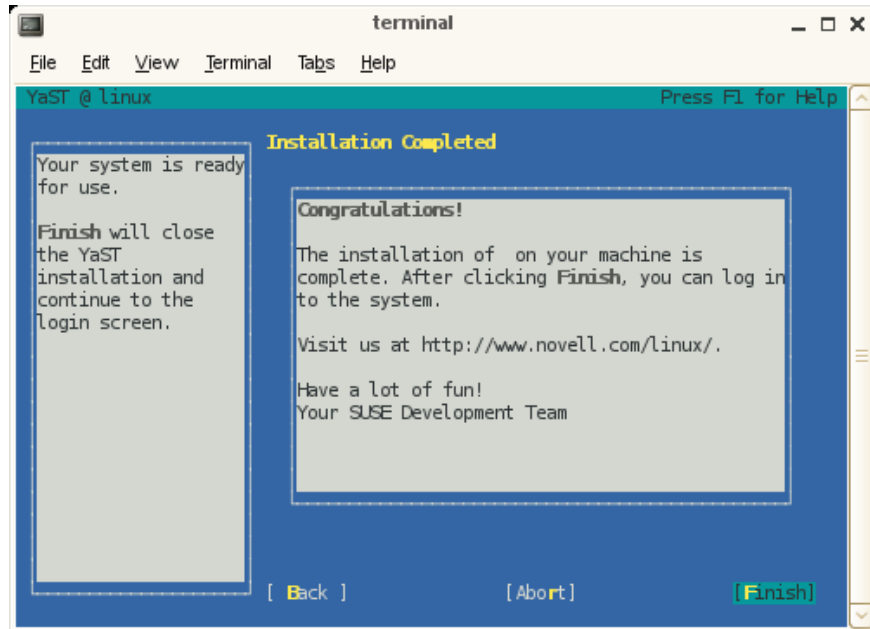

Figure 2-8 Installation Completed Screen
18. An **Installation Completed** screen appears, as show in Figure 2-8 on page 44. Click on the **Finish** button.